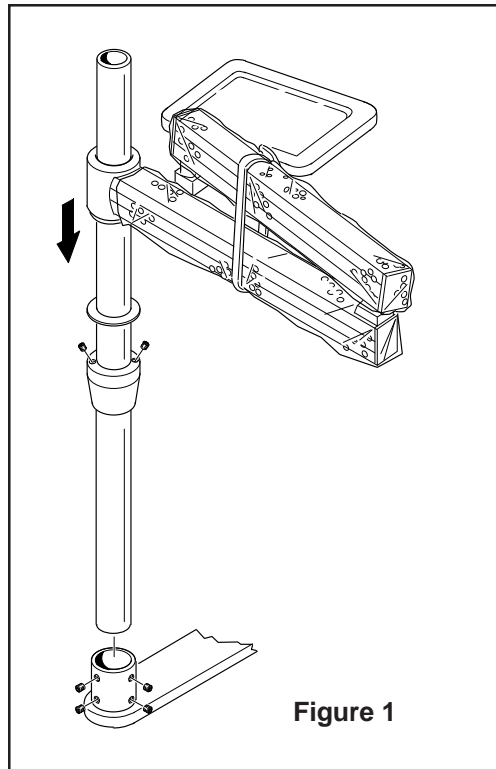

Figure 1
1. Install the unit post on the chair mount bracket (see Figure 1). Using the post leveling tool DCI #8668 and the appropriate hex key, adjust the set screws in the chair mount bracket to set the post in a perfectly vertical position. A slight deviation will cause the control unit and tray to not be level, allowing instruments to roll on the tray.
2. Install the arm assembly with control unit on the unit post as follows: (Figure 1 covers the next four steps).